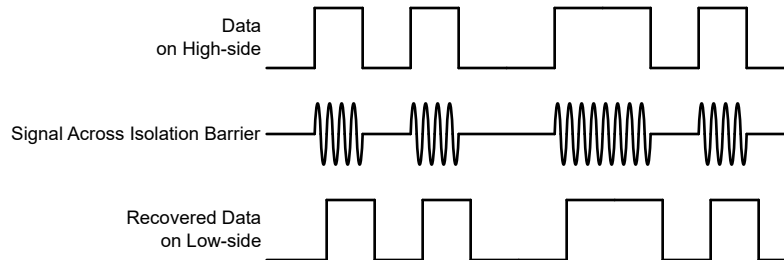

Figure 7-4. OOK-Based Modulation Scheme
The AMC22C12 uses an on-off keying (OOK) modulation scheme, as shown in Figure 7-4, to transmit the comparator output states across the SiO₂-based isolation barrier. The transmit driver (TX) shown in the Functional Block Diagram transmits an internally-generated, high-frequency carrier across the isolation barrier to represent a digital *one* and does not send a signal to represent a digital *zero*.